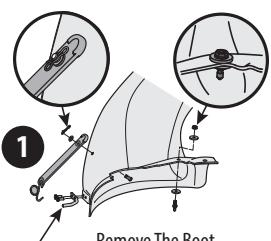

Figure 18
1. Install the rubber chute strap onto the chute elbow using the supplied clevis pin (711-05063), washer (736-0204) and bow-tie cotter pin (714-04040) from hardware pack 689-02239A. See Figure 18. Secure the end of the strap utilizing the hole furthest from the end, insert the smaller hook end of the torsion spring hook (732-04510A) into the other end (1).
NOTE: On decks with front deck wheels, the boot mount rod must be removed in order to install this discharge chute elbow onto the tractor. See Figure 18.
2. Install the deck mounting pin (711-05049) up into the chute elbow using two flat washers (736-0176) from hardware pack 689-02239A and secure with a flange lock nut (712-3027), as shown in Figure 18.
3. Remove the boot mounting rod and hardware as indicated in Figure 18.